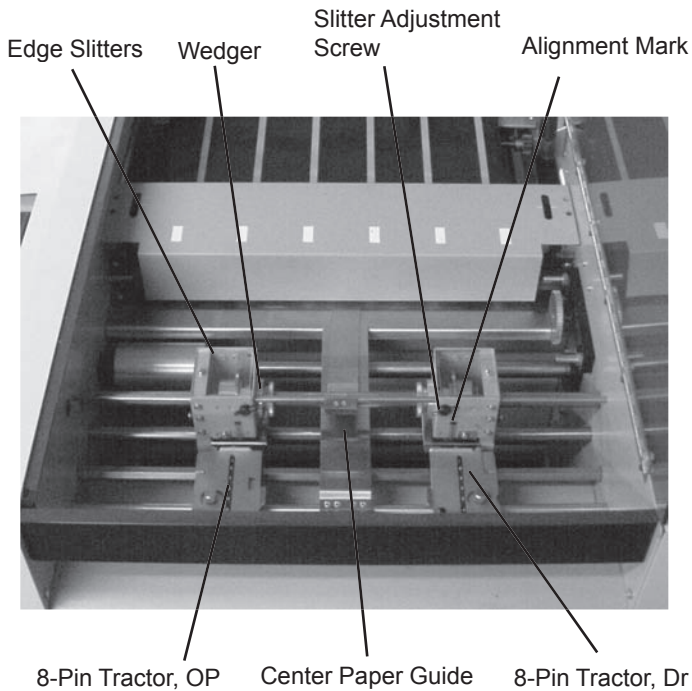

Fig. 22b
8. If using edge slitters, position alignment mark where you wish to slit. (Fig. 22b)
9. If slitting, be sure that slitter blades are engaged. This is accomplished by rotating wedger in a counterclockwise direction as far as they will go without force. (Fig. 22b)
10. Lock edge slitters in place by tightening thumbscrews clockwise. (Fig. 22b)